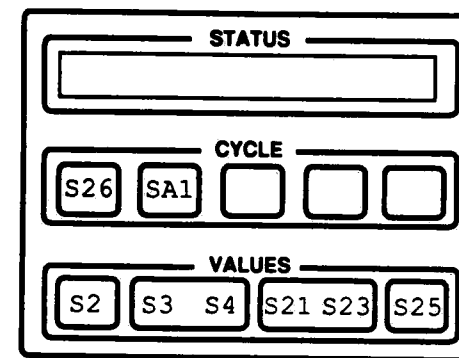

FIGURE 5-6 - Valve Control Touch Pads
5. Energize solenoid valve S2 by pressing the appropriate touch pad (Figure 5-6). Steam flows into the chamber.